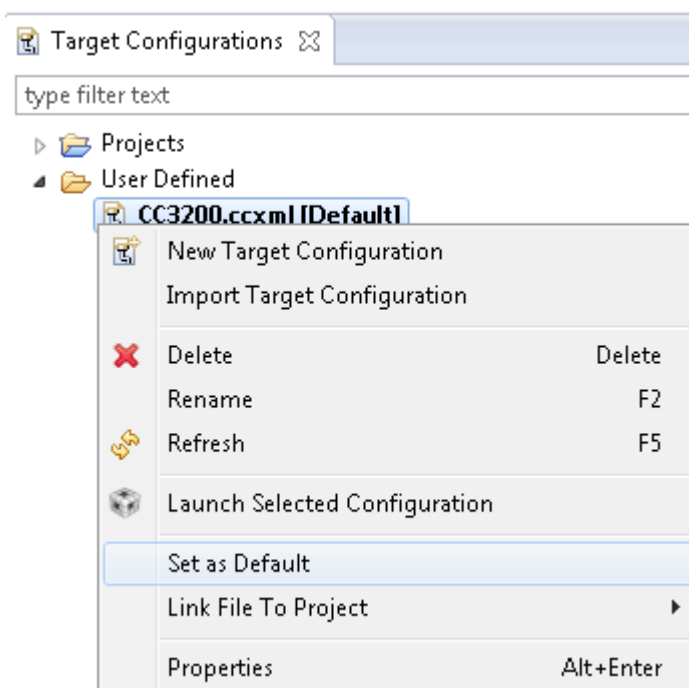

Figure 12. Set as Default
- Set this new configuration as the default by right-clicking on the file name, as shown in Figure 12.